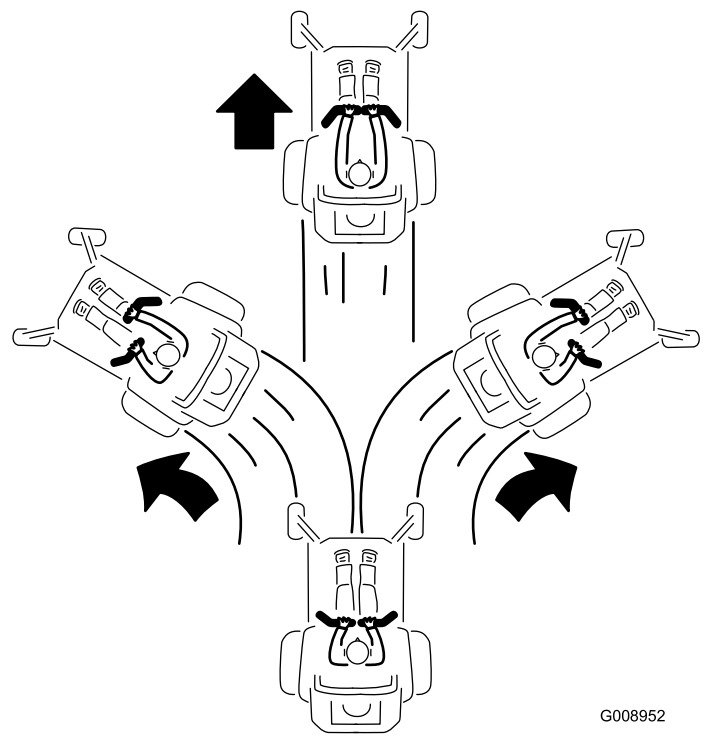

Figure 30
3. To go forward, slowly push the motion-control levers forward (Figure 30).